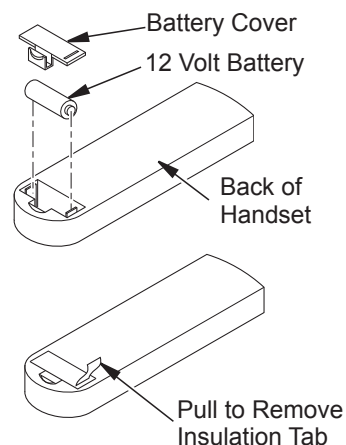

Figure 13A - Installing Battery into Back of Handset
3. Activate remote handset battery by removing insulating tab on back of handset (see Figure 13A). Battery is included pre-installed.